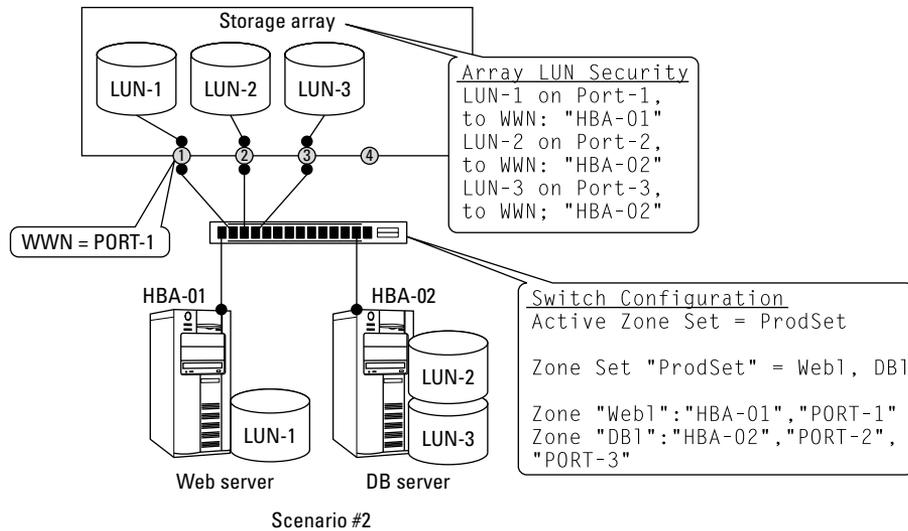

Figure 12-9:
Figure 12-9 shows the diagram of your environment for Scenario #2. You have two servers, each with one HBA going to one switch and one storage array. One server gets a single LUN; the other gets two LUNs. (Well, maybe it isn't much more complicated.)
This scenario starts with everything working as expected. As usual, all of a sudden someone calls you to yell about an application that doesn't work anymore. Apparently the database (DB) server pictured in Figure 12-9 lost one of its LUNs: LUN-3. Your job is to figure out why. Like a superhero, you spring into action.
Move along the path to the next component: the switch. The SAN switch is using WWN zoning, and the zones are listed in Figure 12-9. For the DB server, see the zone called DB1 that contains the HBA's WWN; HBA-02; and the two ports on the storage array, PORT-2 and PORT-3.
Checking the configuration of the storage array, as pictured in Figure 12-9, you see that LUN security is enabled and that LUN-2 and LUN-3 are assigned to ports PORT-2 and PORT-3, respectively, and secured to HBA-02 via each port. If you lay everything out logically, you'll get these paths to your volumes: